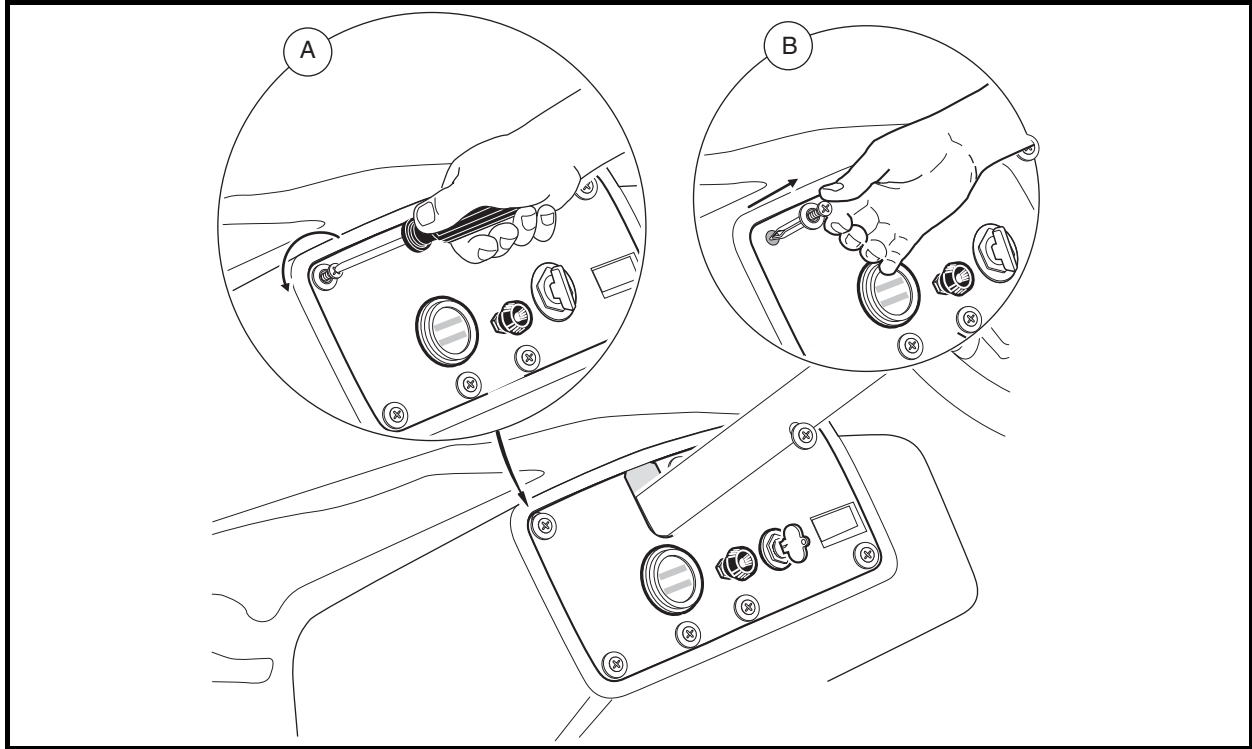

Figure 12-18 Instrument Panel Removal
- 3.1. Loosen seven Tuflok screws, but do not remove screws completely, as shown in Detail A (Figure 12-18, Page 12-15).